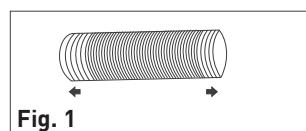
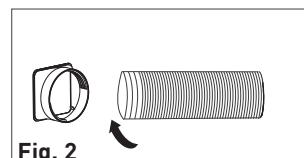

Fig. 1
Fig. 2
- Slightly extend one end of the duct (Fig. 1), then screw it into the inlet adapter (Fig. 2). Make sure that the duct is screwed into the adapter as far as it will go.